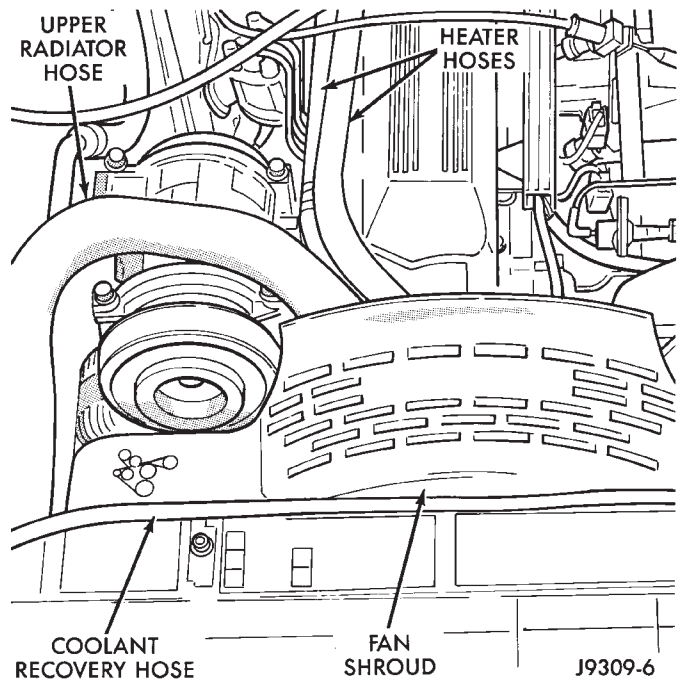

Fig. 25 Upper Radiator Hose, Coolant Recovery Hose, Fan Shroud & Heater hoses
- (1) Disconnect the battery cables. Remove the battery.
- (2) Mark the hinge locations on the hood panel for alignment reference during installation. Remove the engine compartment lamp. Remove the hood.
- (3) Remove the radiator drain cock and radiator cap to drain the coolant. DO NOT waste usable coolant. If the solution is clean, drain the coolant into a clean container for reuse.
- (4) Remove the upper radiator hose and coolant recovery hose (Fig. 25).
- (5) Remove the lower radiator hose.
- (6) Remove upper radiator support retaining bolts and remove radiator support.
- (7) Remove the fan assembly from the water pump.
- (8) Remove the fan shroud (Fig. 25).
- (9) Disconnect the transmission fluid cooler tubing (automatic transmission).
- (10) **Vehicles with Air Conditioning:**
- (11) Remove the radiator or radiator/condenser (if equipped with A/C).
- (12) Disconnect the heater hoses at the engine thermostat housing and water pump (Fig. 25).